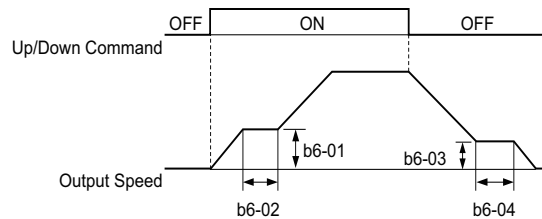

Figure 5.3 Dwell Function at Start and Stop
*Figure 5.3* shows how the Dwell function works.